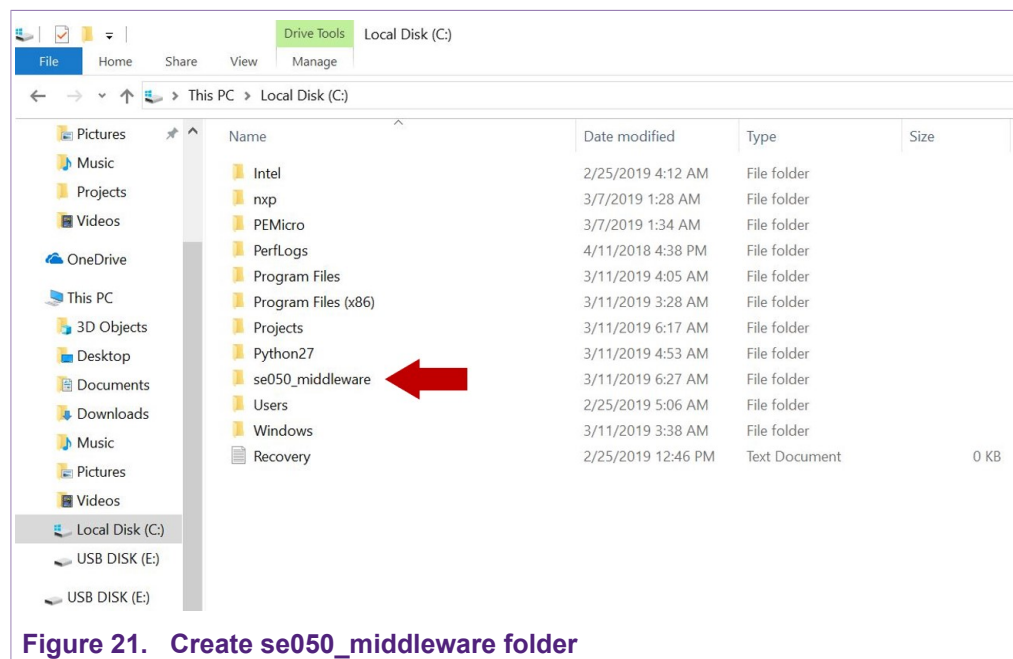

Figure 21. Create se050\_middleware folder
2. Create a folder called **se050\_middleware** in C: directory as shown in Figure 21: